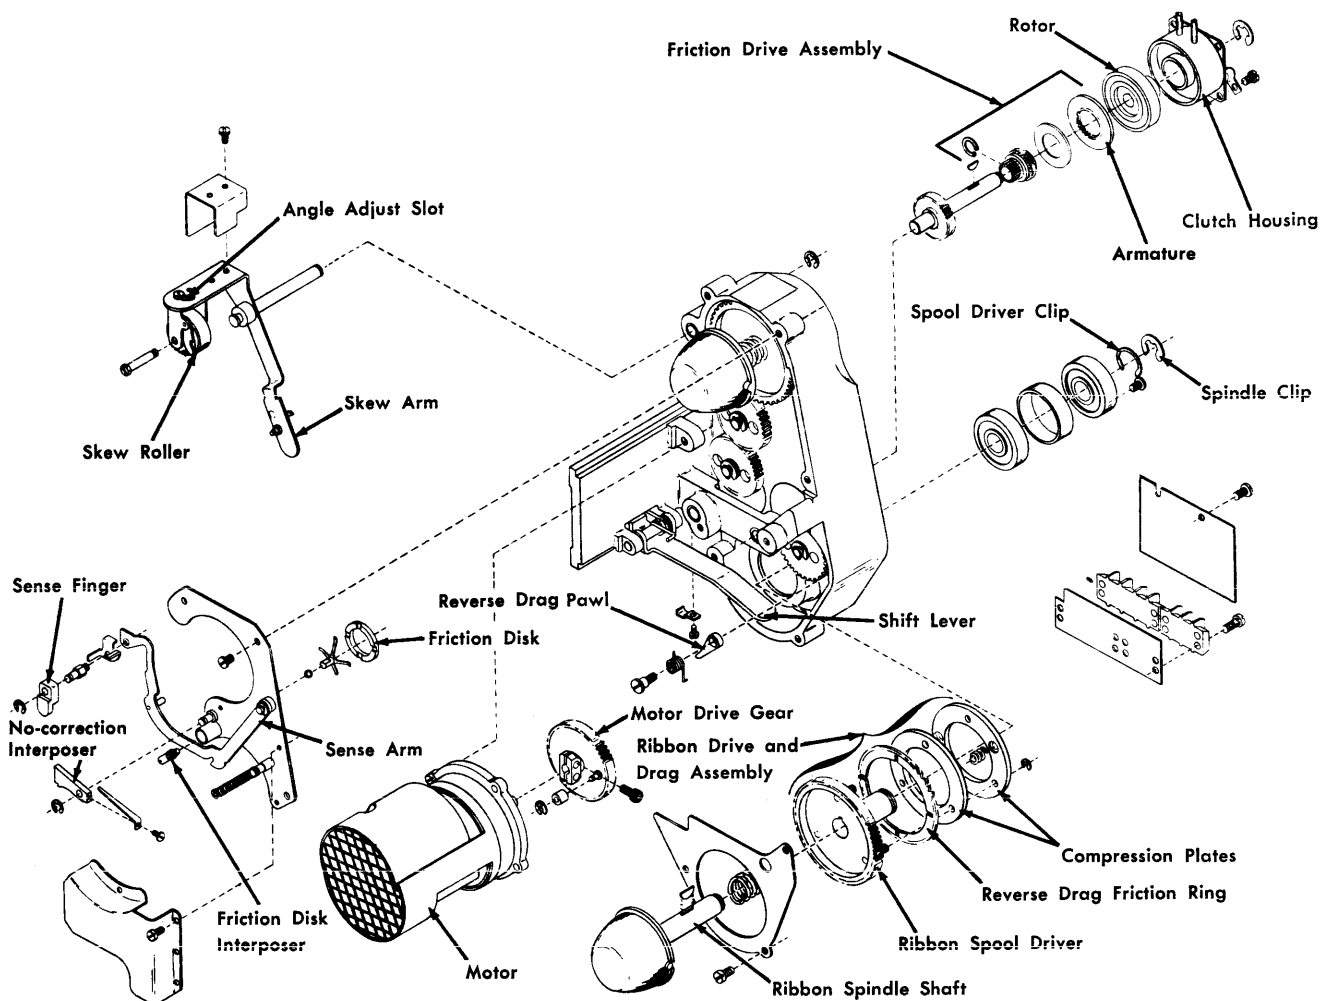

Figure 34. Ribbon-Drive Assembly
1. Locate the sense finger (Figure 34).
3. Adjust the angle of the skew roller (see Figure 34) on the skew arm so that the ribbon:
5. Remove the retaining clip from the ribbon-spindle shaft. See Figure 34.
1. After removing the drive-and-drag assembly (see Figure 34), stand the assembly up with the compression plate on top.